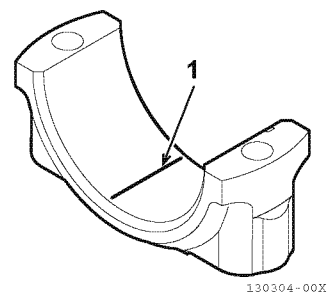

Figure 6-68
- 2- Place a piece of PLASTIGAGE (1, **Figure 6-68**) along the full width of each bearing insert.